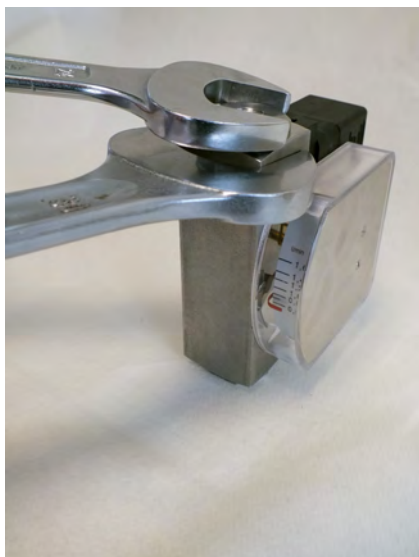

Fig. 60: Tighten process connection (outlet)
- 11.** ▶ Using a proper sized fixed spanner tighten the process connection (outlet). Hold the device body in place using a suitable fixed spanner (Fig. 60), and observe the proper torque (↗ Chapter 11.1 “Tightening torque” on page 81)